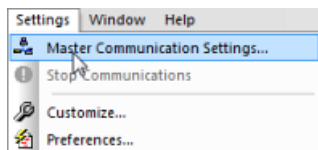

FIG. 2 NetLinx Studio menu bar - Settings > Master Communication Settings
1. Launch NetLinx Studio and select **Settings > Master Communication Settings** (FIG. 2):